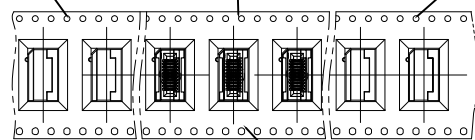

Fig.1
- (1)Packaging way of each reel is shown in figure 1.